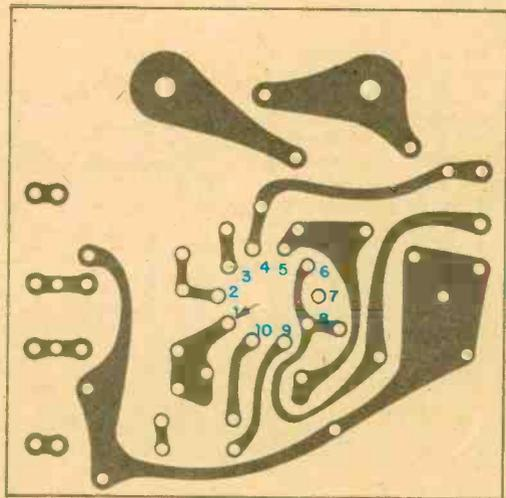

Fig. 4—Circuit board foil template. Cut out and transfer black-area outlines with carbon paper to foil on board. Don't trace lines at edges.
**Making the Board.** Cut a 2 $\frac{3}{4}$ -in. square of XXXP or epoxy board and clean the surface with a household cleanser such as Ajax. Place a piece of carbon paper face down on the foil and tape the board directly under the template in Fig. 4. Using a ball point pen, trace the foil outlines on the template. Using a pick, indent the foil through the template and carbon paper at each component mounting hole. (Don't waste time trying to use resist circles for the drilling points.) When the board is etched to remove the excess copper, each indent will indicate a drilling location.